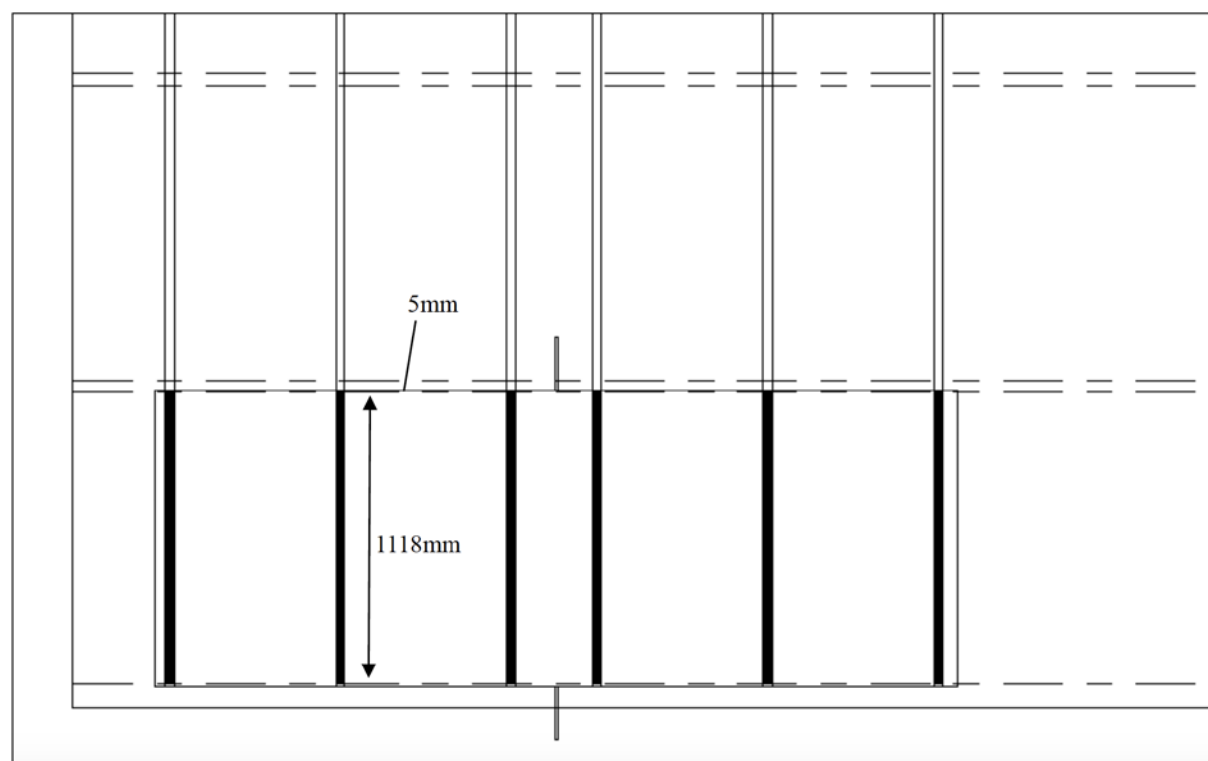

Figure 12
- ④ The length of the structural adhesive between the support tube and the upper product is 1118mm, and the two ends are indented 5mm from the long side of the Galaxy product; (Figure 12)